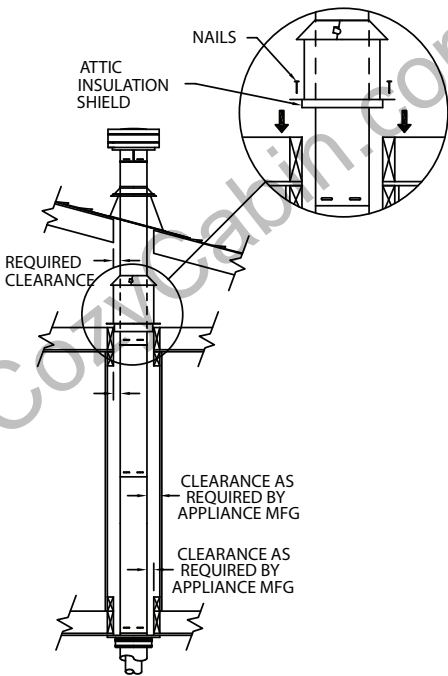

Figure 19
(1) For multi-story vertical installations, a Ceiling Firestop is required at the second floor, and any subsequent floors (Fig. 19). Refer to Table 1, page 8. Cut and frame a square opening for installation of the Ceiling Firestop.
(2) If Vent passes through any occupied areas above the first floor, including closets and storage spaces, it must be enclosed. The enclosure may be framed and sheetrocked with standard construction materials, but required clearances to combustibles
(3) If venting system passes through an attic space the Attic Insulation Shield or a chase enclosure must be installed to prevent contact between Pipe Sections and the insulation or other debris. For the Attic Insulation Shield, nail the base to floor of attic and adjust shield for appropriate insulation level, then attach the collar at the top of assembly (Fig. 19). For a chase enclosure, it may be constructed out of sheetrock or similar building materials and framed around the support box or the pipe, maintaining the clearance to combustibles as required by the appliance manufacturer. For vaulted ceilings a chase enclosure must be constructed as the Attic Insulation Shield can not be installed.